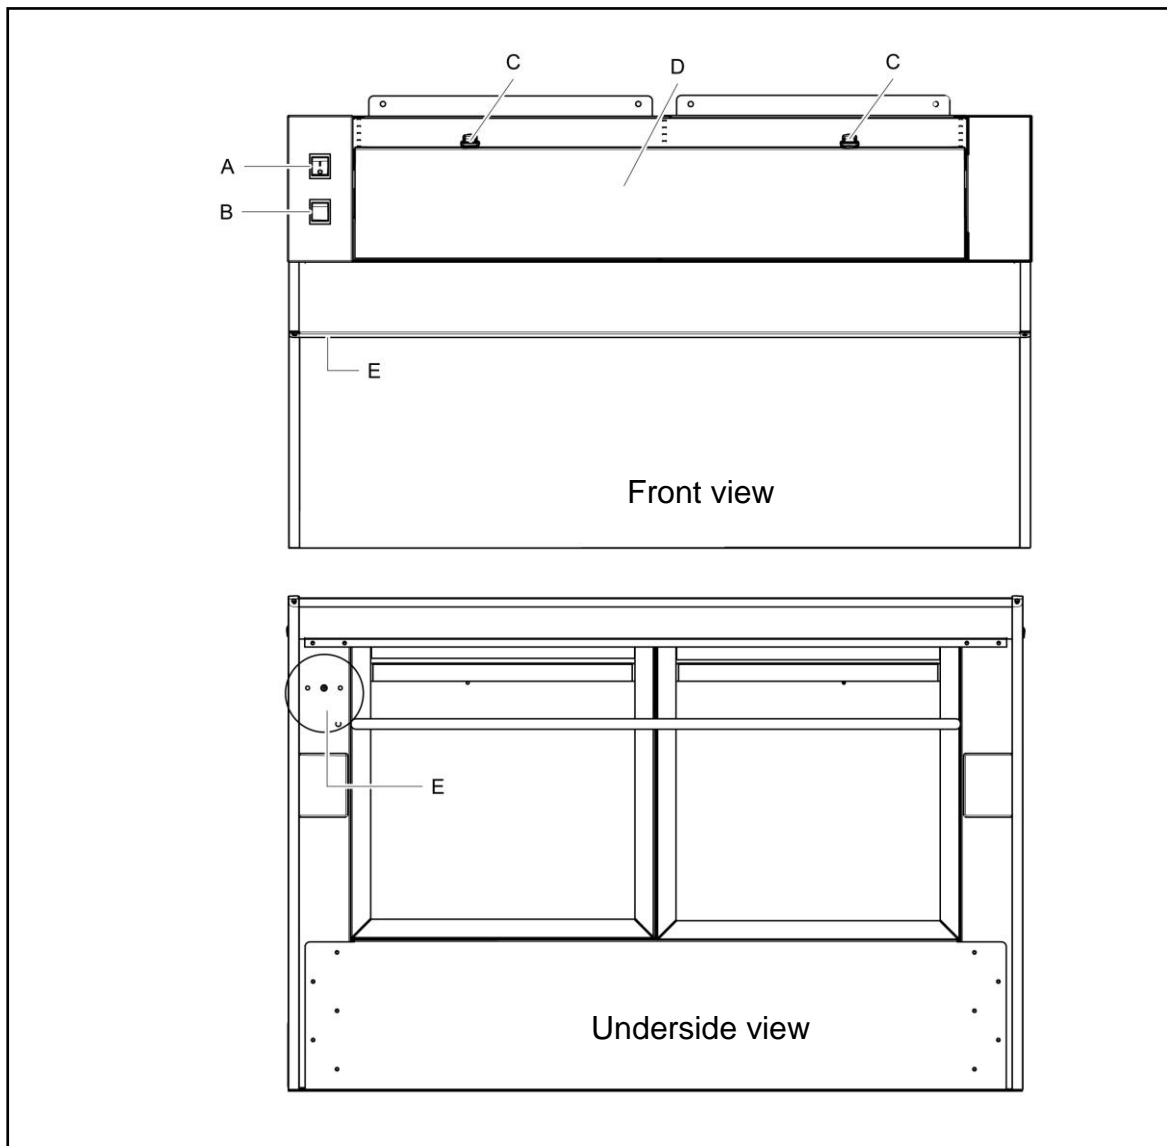

Fig 2
Connect the appliance to the electricity supply. Turn on the power switch Fig 2 (A).
This appliance is fitted with a safety thermostat to cut off the power in the event of a fault. To re-set the safety thermostat, press the button as located in Fig 2, E.
Disconnect the appliance. Release the latches - Fig 2 (C) and open the door (D).